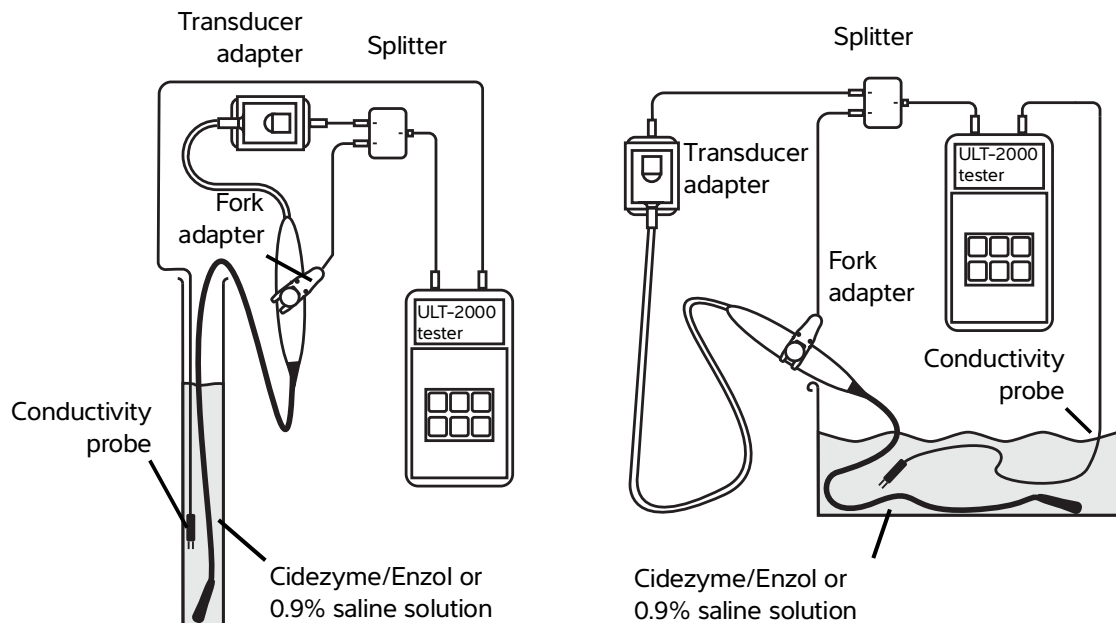

Figure 4-4 Two electrical test setup examples
- 3 Attach the splitter to the leakage tester, then attach the transducer adapter and the fork adapter to the splitter as shown in **Figure 4-4**.